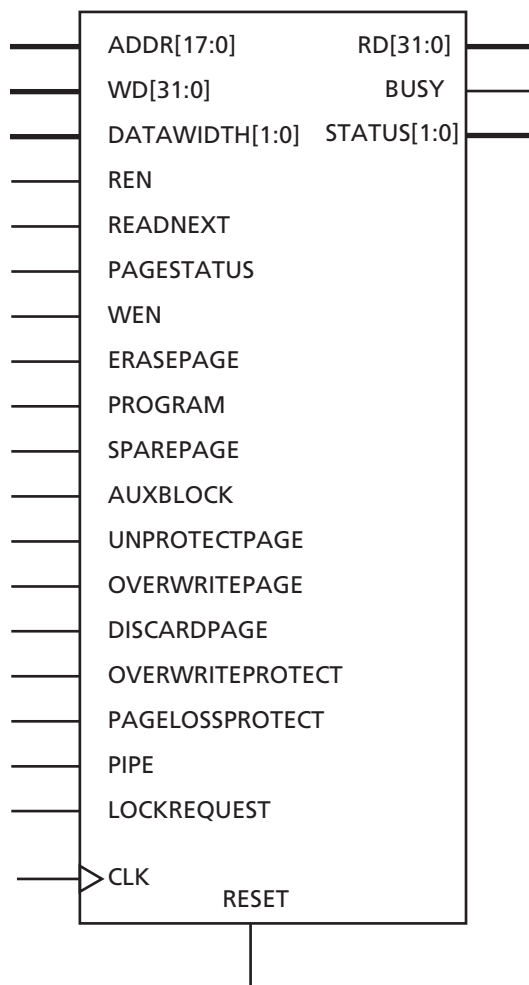

Figure 2-31 • Flash Memory Block
Fusion is the first FPGA that offers a Flash memory block (FB). Each FB block stores 2 Mbits of data. The Flash memory block macro is illustrated in Figure 2-31. The port pin name and descriptions are detailed on Table 2-18 on page 2-38. All Flash memory block signals are active high, except for CLK and active low RESET. All Flash memory operations are synchronous to the rising edge of CLK.